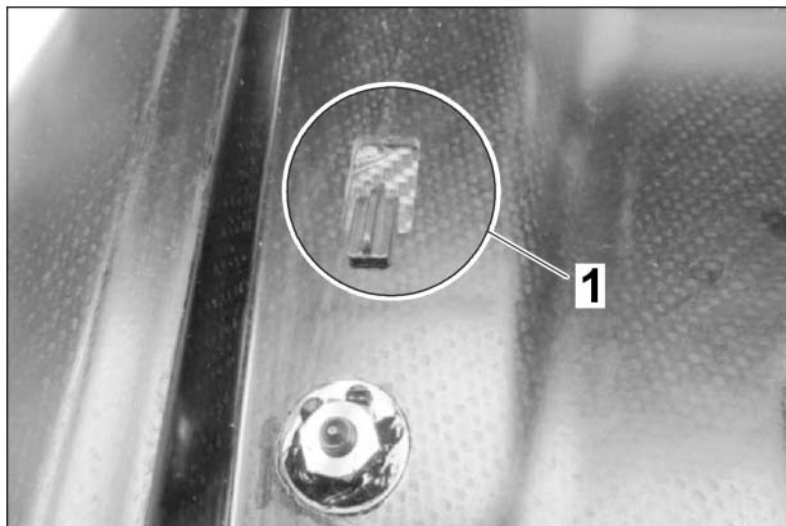

Figure 68
- 39. – Place the new rear cover on the hinges. Check That the retaining lugs on the hinges snap into the recesses in the rear cover ⇒ *Figure 68 -1-*.